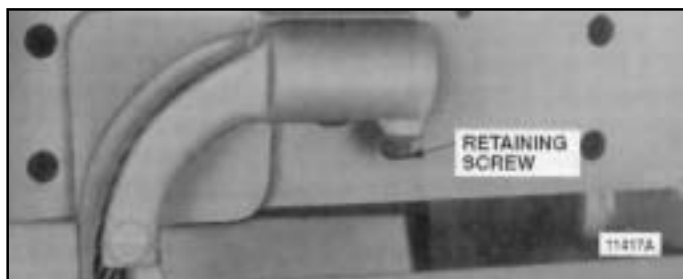

Figure 2-4. Rope End Anchor.
d. Check Lower Block and Hoisting Cable. Depress **↓** push button and run lower block to its lowest position. No less than two wraps shall remain on the drum with the loaded hook in its lowest position, unless hoist is equipped with a lower limit switch in which case no less than one and one half wraps shall remain on the drum. Also check to see that lower block and rope does not twist excessively. If it does twist to the extent that two ropes rub against each other, disengage rope from the frame anchor and twist rope four or five turns in a direction opposite to that which the block turns. Reconnect rope to anchor (Figure 2-4), holding firmly to eliminate rope twisting back to its original position. Operate hoist up and down a few times. If lower block still rotates, repeat process until twisting is corrected.